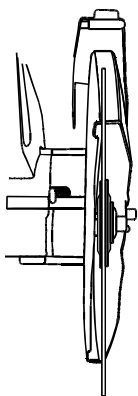

Figure 10
2. Lift the guard fully upward until it exposes the arbor cap screw. (Figure 10)